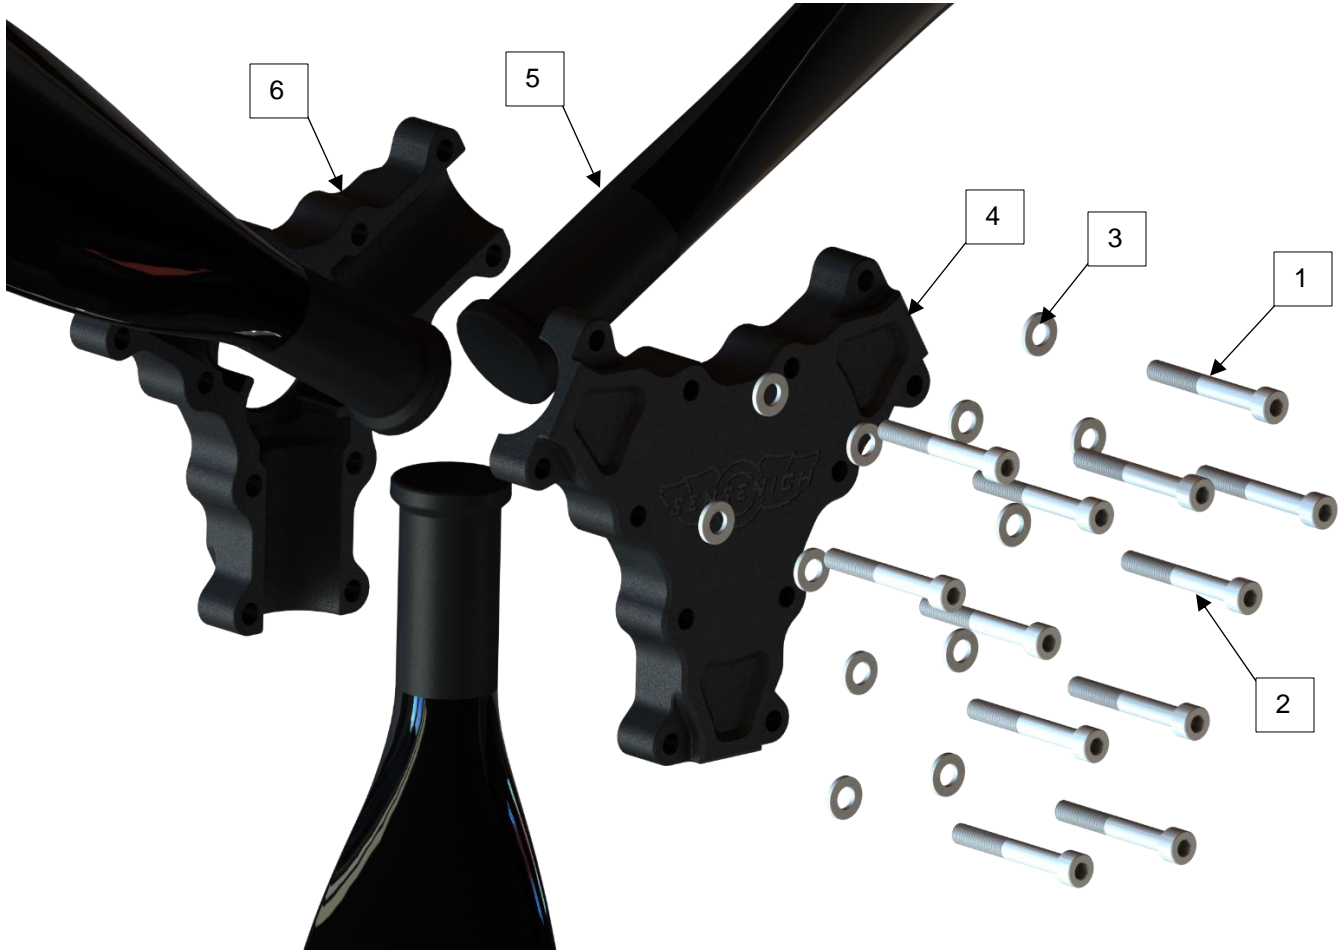

FIGURE 1. PROPELLER ASSEMBLY
1. Ensure the aircraft magneto switch is in the "OFF" position and that both magnetos are grounded any time the propeller is handled. Chock the aircraft wheels to prevent movement. Clean dirt and oil residue from the engine flange. Refer to **Figure 1** for views of the two piece hub, and blade.
10. Refer to **Figure 1** for views of the two piece hub and blade. Using the six Nord-Lock washers and six mount bolts, secure the hub mount, rear spinner bulkhead (if used), and the spacer (if required) to the engine flange. Using a calibrated torque wrench, torque the 6 mounting bolts evenly using an alternating pattern. Tighten the bolts in several increments up to full torque, such as 50%, 75%, and full torque. See **Table 2** or hub decal for bolt torque values.